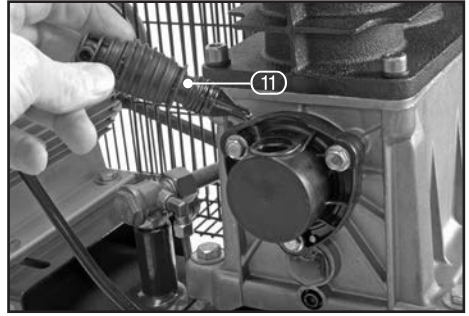

FIG.5
8.5 FILLING WITH OIL – FIGS. 5 - 6